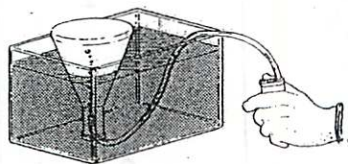

Figure 15-1
4. Attach a 20 cm length of plastic tubing to a butane lighter and hold the free end beneath the mouth of the inverted flask. Press the release button of the lighter making sure the bubbles go into the flask. Collect about 250 mL of gas. See Figure 15-1.